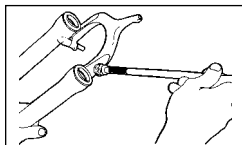

Fig. 6
11. Apply New and Improved Judy Butter to the surface of the upper bushings and fill the pocket between the lips of the Resi-wiper seal completely (fig. 6).